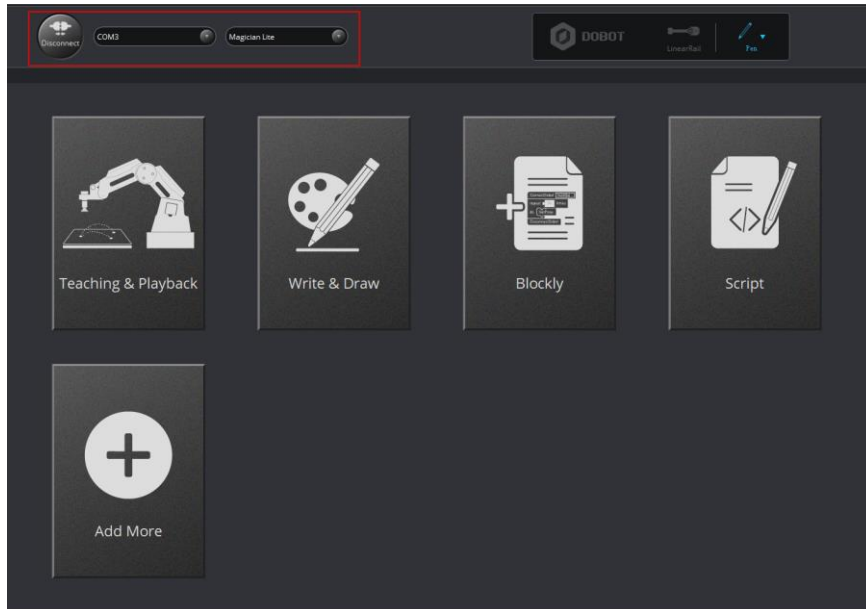

Figure 5.37 Connect Magician Lite
Step 1 Launch the DobotStudio, and select device type and COM port (take Magician Lite as an example), and then click **Connect**, as shown in Figure 5.37